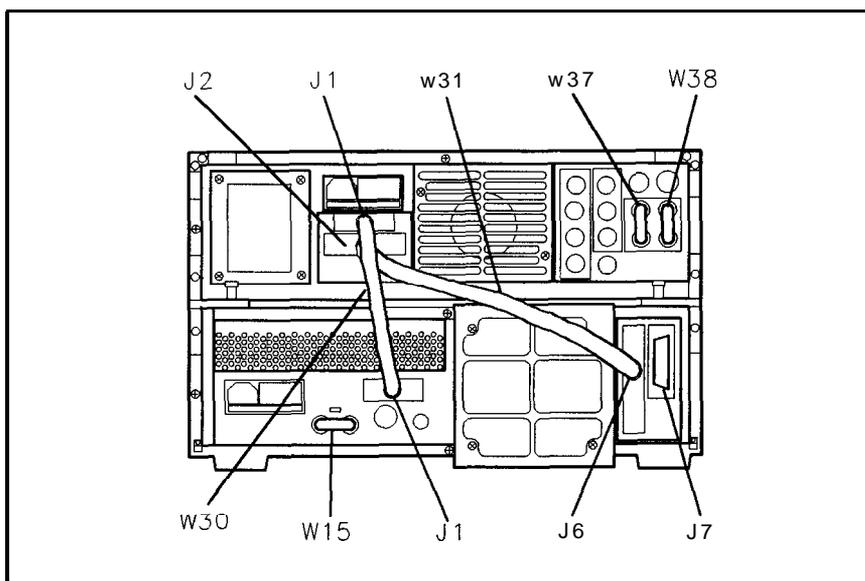

Figure 2-7. Rear-Panel Cable Connections
11. Connect cable W31 between IF-Display section J2 and RF section J6. See Figure 2-7.